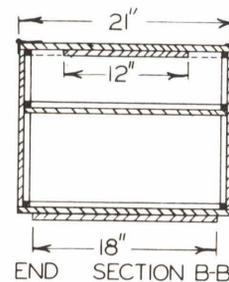

Figure 5
Step 10. Figure 5 is an X-Ray view of end. Fasten lid braces into place (Figure 1). Place top or lid in place and fasten hinges in place.